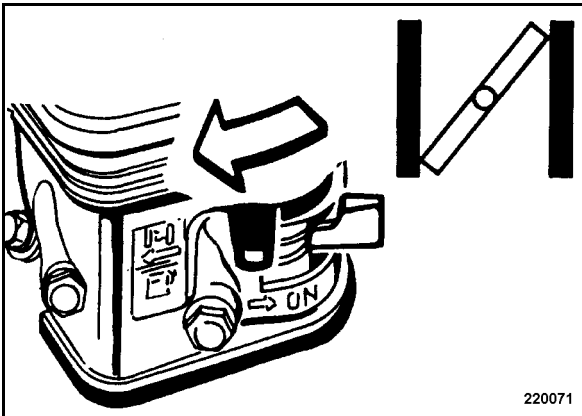

Fig. 18
- Close the choke completely by shifting the lever (Fig. 18) in direction of arrow against the end stop.